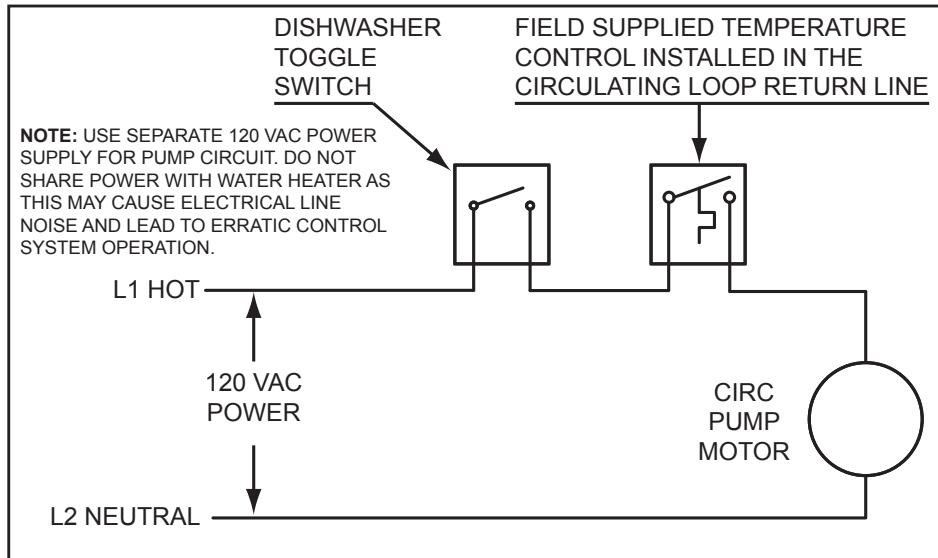

Figure 69. Circulating Pump Wiring Diagram - Dishwasher Loop Toggle Switch
7. If a pump is being installed in a recirculation loop between the water heater and a commercial dishwasher wire according to *Figure 69* (page 71).
- 7. If a pump is being installed in a recirculation loop between the water heater and a commercial dishwasher wire according to *Figure 69* (page 71).
7. If a pump is being installed in a recirculation loop between the water heater and a commercial dishwasher wire according to *Figure 69* (page 71)..